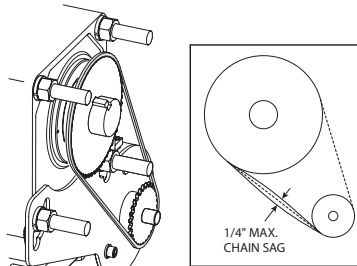

Fig 8-B
- Check chain tension, max sag is 1/2", **Fig. 8-B**.